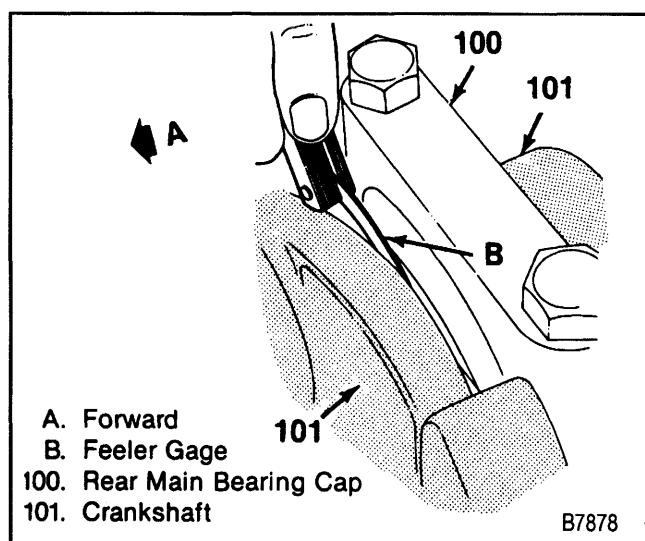

Figure 31—Measuring Crankshaft End Play
- c. With the crankshaft forced forward, measure at the front end of the rear main bearing with a feeler gage (figure 31). The proper clearance is 0.005-0.011 inch.